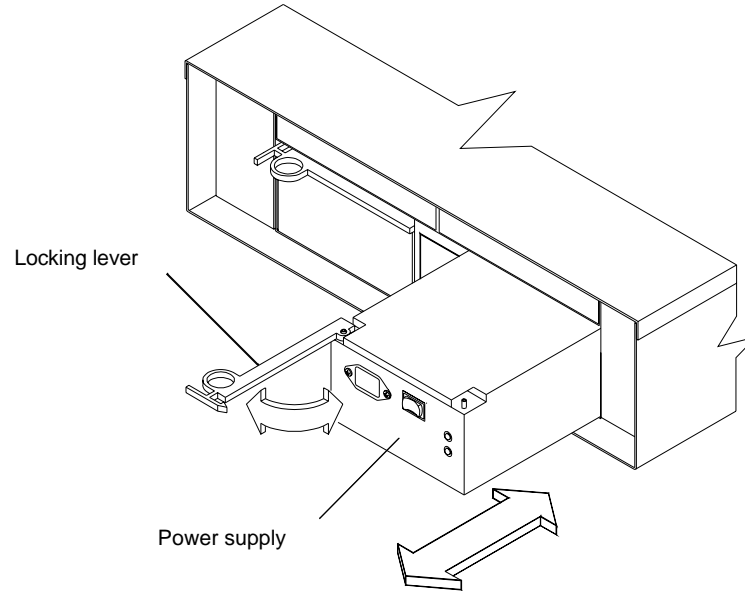

Figure 4-4 Removing and Installing a Power Supply Module
7. Wearing antistatic protection, grasp the pull-ring on the locking lever and squeeze the tab against the ring to unlatch the lever (see Figure 4-4).
15. Check that the power indicator on the new canister is on and that the fault indicator is off (see Figure 4-4).